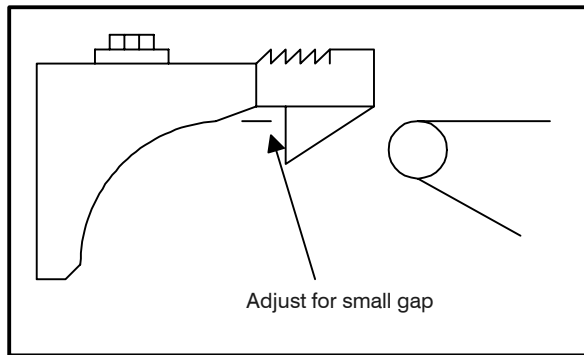

FIGURE 5
4. Adjust the catch up and down. There should be a small clearance between the wheel on the door handle and the tooth of the catch on the oven. See FIGURE 5. In most cases the catch will be all the way up.